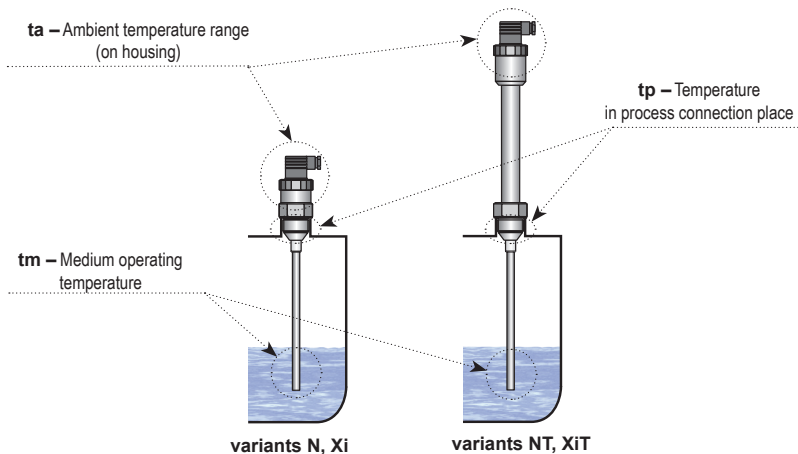

Fig. 14: Points for temperature determination on the level meter
1) The temperatures are clearly explained on Fig. 14